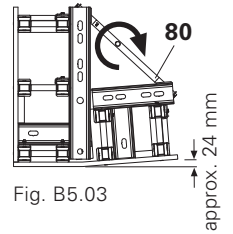

Fig. B5.03
Untighten spindle (80). This results in a striking clearance of approx. 24 mm. (Fig. B5.03)